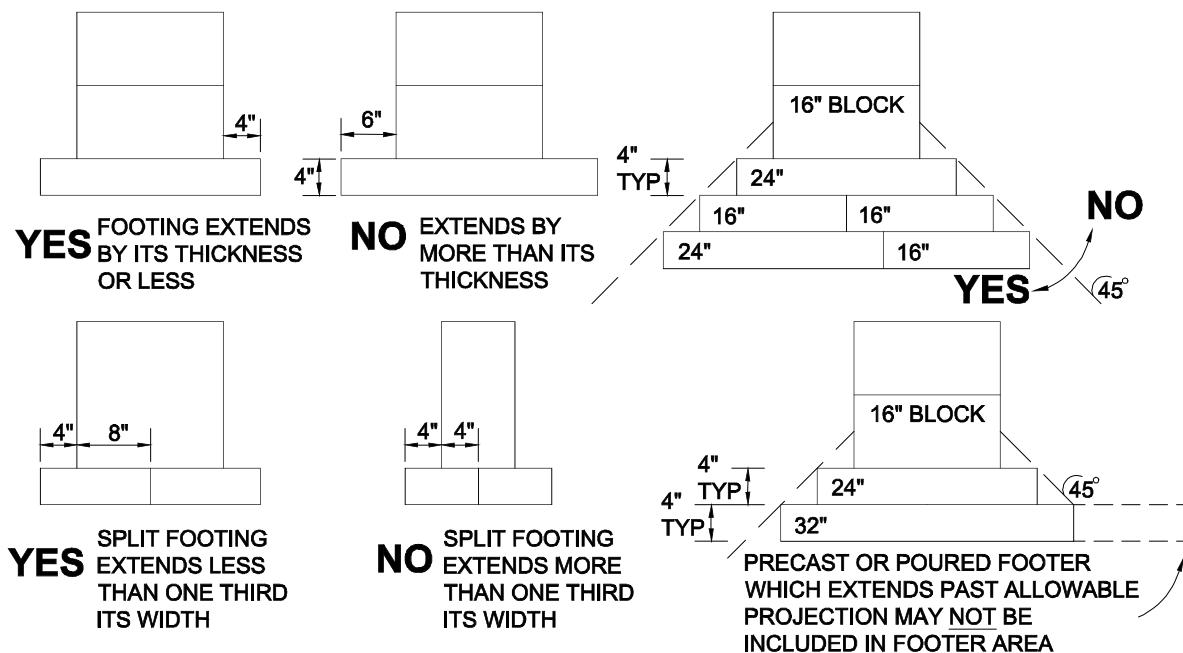

Figure 14. Maximum footing extensions
- Design footings with a footing extension (projection beyond the base of the pier) no greater than the footing thickness (**Figure 14**). Increase footing thickness if necessary.